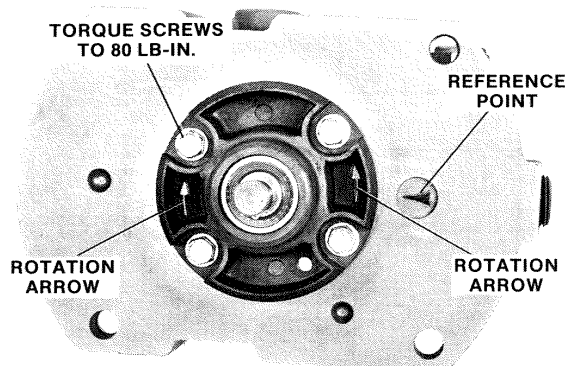
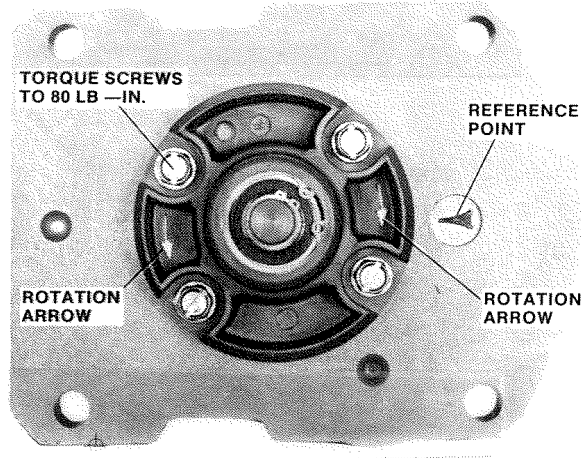

Figure 2-5. Setup for Clockwise Rotation of the Governor Drive Shaft
Figure 2-6. Setup for Counterclockwise Rotation of the Governor Drive Shaft
4. Align the arrow on the pump housing with the reference point on the governor case. Figure 2-5 shows the setup for clockwise (cw) rotation of the governor drive shaft, and Figure 2-6 shows the setup for counterclockwise (ccw) rotation of the governor drive shaft.
As seen in Figure 2-5, a TG-13 or TG-17 described as having a “clockwise rotation” is set using the arrow that points *counterclockwise* next to the reference point on the governor case. And a TG-13 or TG-17 described as having a “counterclockwise rotation,” as in Figure 2-6, is set using the arrow that points *clockwise* next to the reference point on the governor case. This is because normal rotation is stated viewing the governor from the top, whereas the governor is viewed from the bottom while changing rotation.